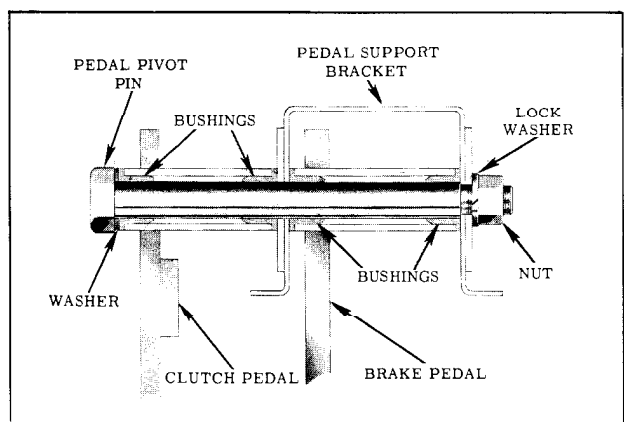

Figure 7-6 Syncro-Mesh Brake Pedal Attachment
1. Lubricate nylon bushings with Lubriplate and insert bushings into pedal mounting bracket. (Fig. 7-6, 7-7.)